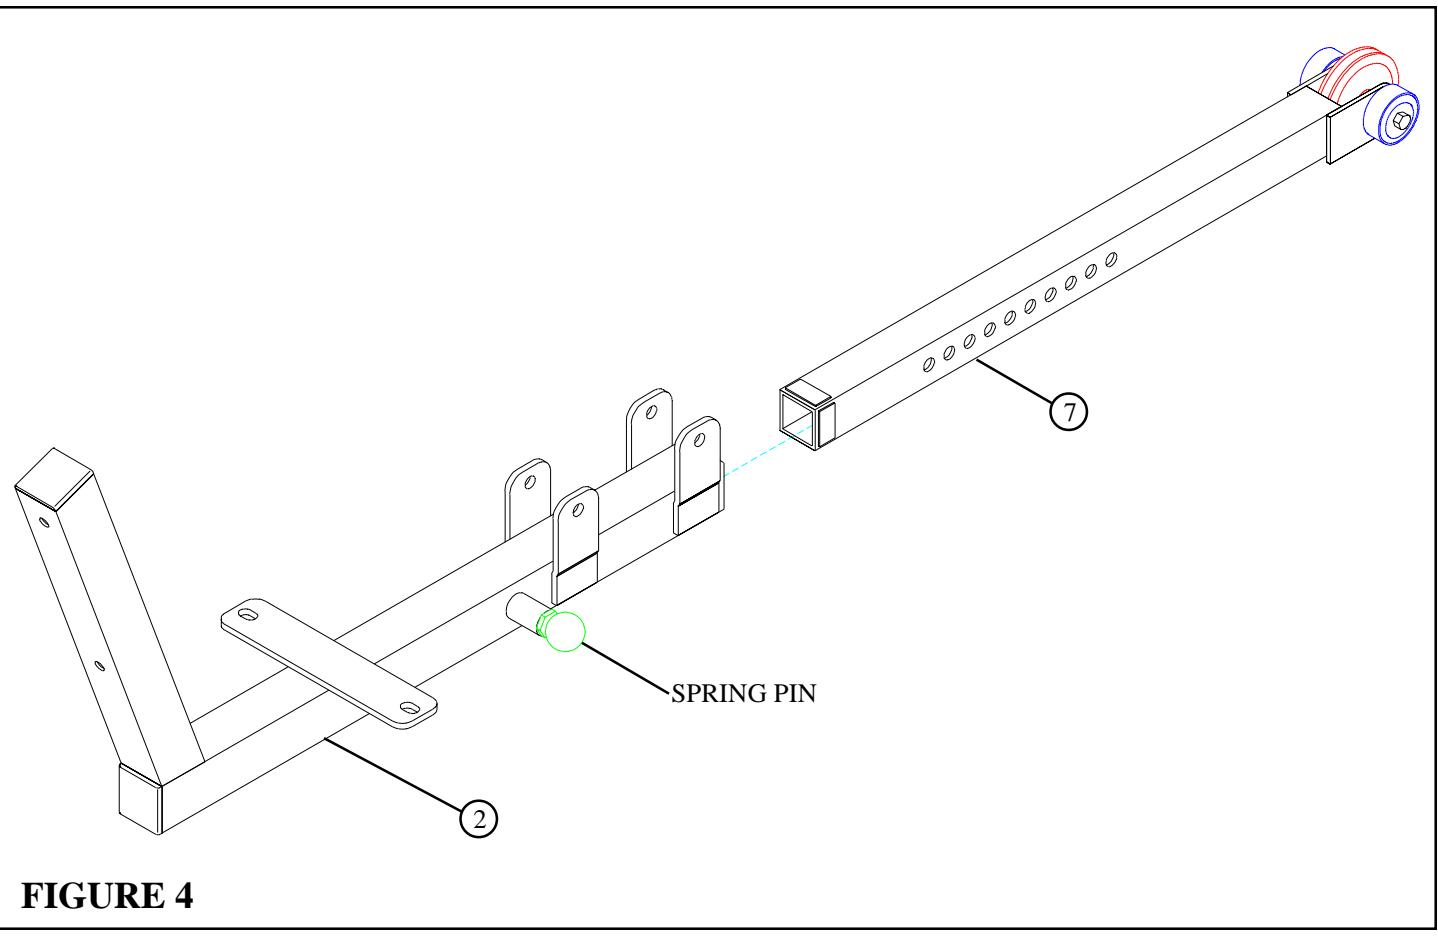

**FIGURE 3**
- **SECURELY** assemble one 3-1/2" PULLEY (11), two 2" WHEELS (16), two 3/8" FLAT WASHERS (17), and two 3/8 ID X 3/8" SPACERS (29) to the ADJUSTMENT TUBE (7) using one 3/8 X 4-1/2" BOLT (26) and one 3/8" LOW HEIGHT LOCK NUT (20) as shown in FIGURE 3.
- Attach four PARAGLIDE STRIPS (14) to the *outside* of the ADJUSTMENT TUBE (7) using the following steps:
- Thoroughly clean all surfaces where the PARAGLIDE STRIPS (14) are to be attached.
- Remove the PARAGLIDE STRIPS (14) from the paper backing and firmly apply them to all shown surfaces.